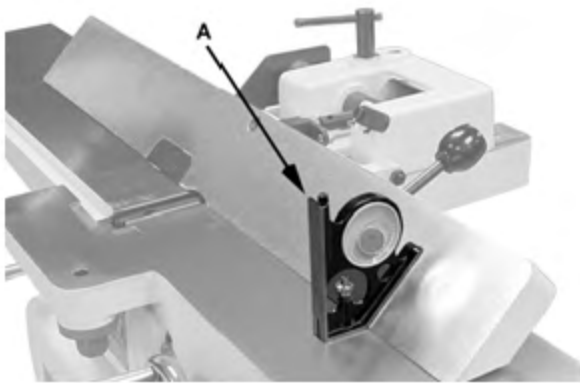

Figure 8-6
1. Loosen the lock handle (A). Move the stop plate (D) out of the way and position the fence at the 135° angle. Make sure the fence sits against the stop bolt. (E).
2. Tighten the lock handle (A).
3. Place an angle measuring device on the table and against the fence to confirm a 135° setting (A, Fig. 8-6).
4. To adjust, loosen the lock nut (F), turn the stop bolt (E) until a 135° angle is obtained.
5. Tighten the lock nut (F).